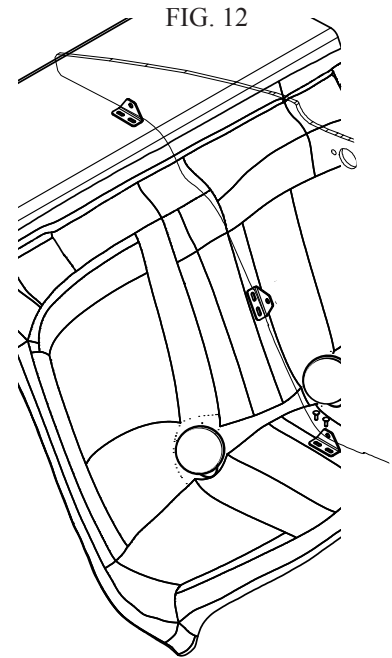

FIG. 12
C. Once you've installed the divider, mount the divider deck bracket in place. Slide the T-bracket under the divider tail. Position the T-bracket where desired and use the (3X110) self-tapping screws to fasten the bracket into the speaker deck (See Fig. 12).